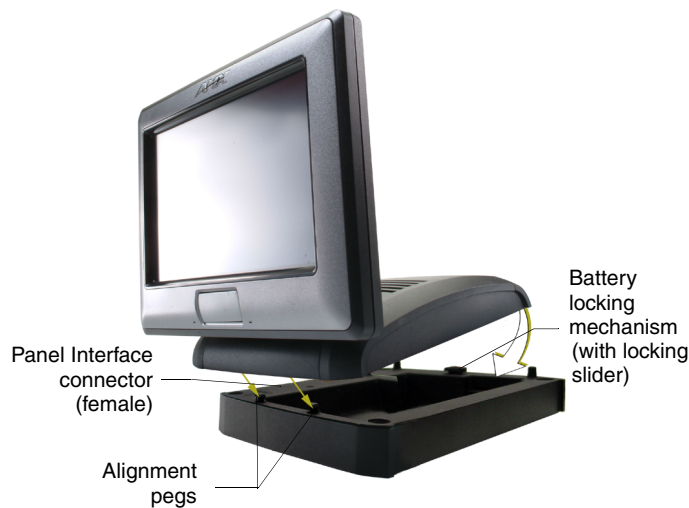

FIG. 6 NXA-BASE/1 shown aligning with an NXT-CV7 panel
4. Carefully angle the NXT-CV7 panel over the front alignment pegs (FIG. 6). The pegs assist in both aligning and securing the panel to the base (the locking mechanism secures the base to panel when done).
6. Verify the alignment of the Panel Interface connectors between the panel (female connector) and base (male connector) (FIG. 6).